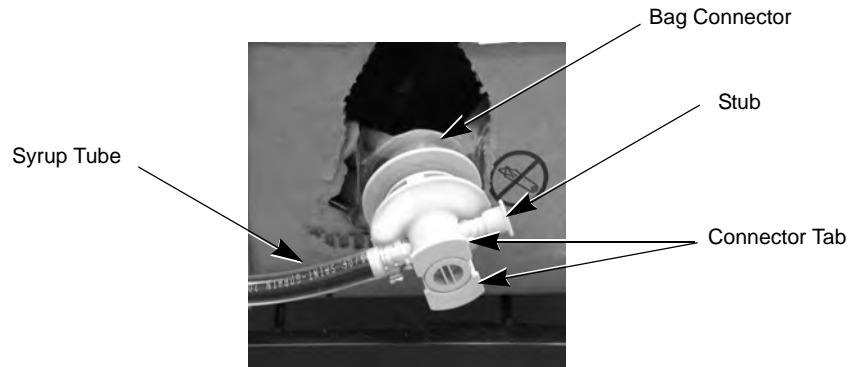

Figure 8
Refer to Table 7 and Figure 8 when replacing a Type 2 BIB container.
6.	Re-install the QCD connector onto the new BIB connector by slipping it onto the connector and pushing the syrup hose and stub down toward the box. Important! Button should be flush, as shown in Figure 8.